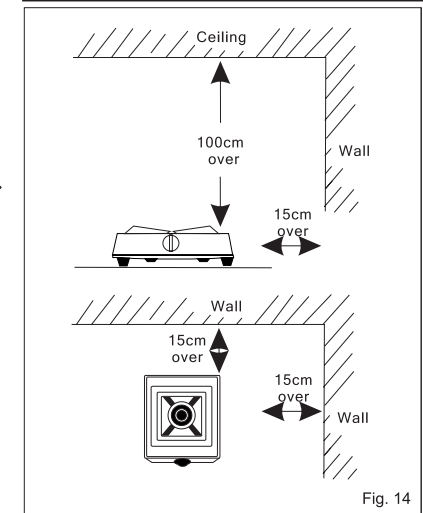

Fig. 14
- When choosing a place to put the gas cooker, be sure to pick a spot that is firm and level. The gas cooker need plenty of space and air. Allow at least 15cm of space on the sides and 100cm above the unit (Fig. 14). If the space is less than 15cm from the inflammable walls, be sure to provide a heat insulation board. Also be sure to keep paper, oil and all other inflammable objects away from the gas cooker.